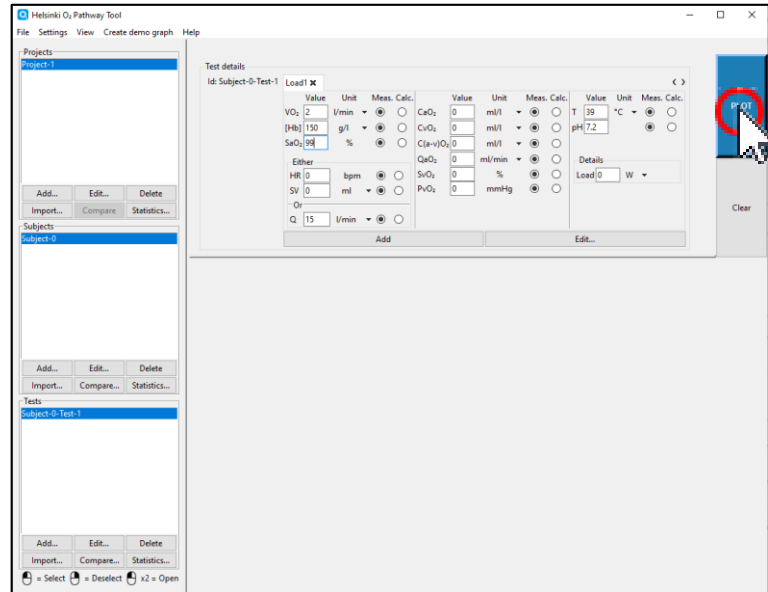

Figure 35
5. Click the **“Plot”** button (figure 35).